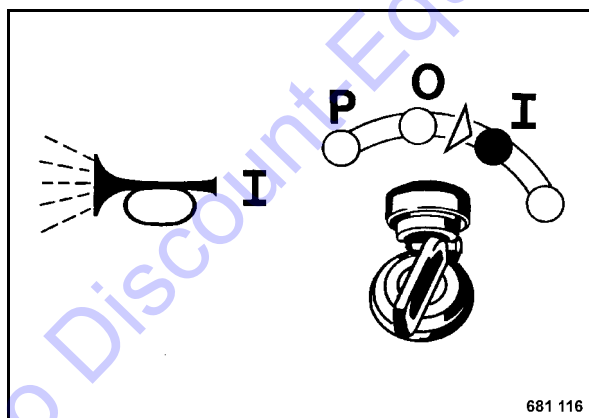

Fig. 17
- Turn the ignition key to position "I" (Fig. 17), the warning buzzer sounds.